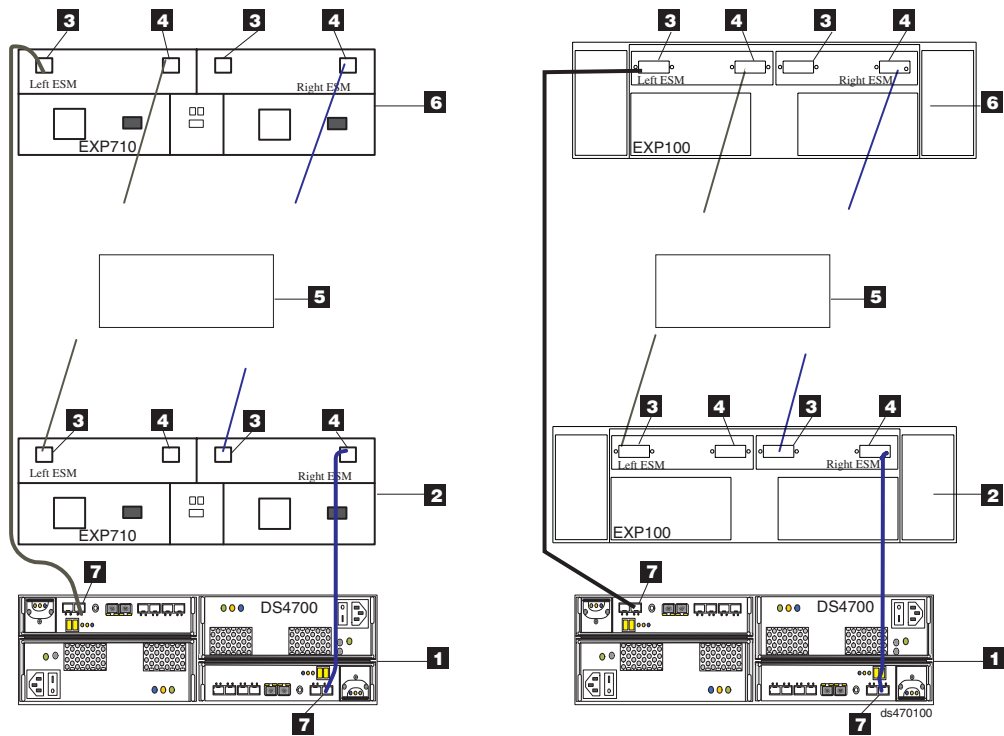

Figure 60. DS4700 Express drive ports connected to 14-drive storage expansion enclosure ESM In and Out ports
- The DS4700 Express drive port must always be connected to the 14-drive storage expansion enclosure's (EXP710 or EXP100) left ESM IN port of the last enclosure in the group of enclosures that are cabled in a redundant drive loop pair. In addition, the DS4700 Express drive port must always be connected to the 14-drive storage expansion enclosure's right ESM OUT port of the first enclosure in the group of enclosures that are cabled in a redundant drive loop pair. Figure 60 on page 80 shows correct cabling to the 14-drive